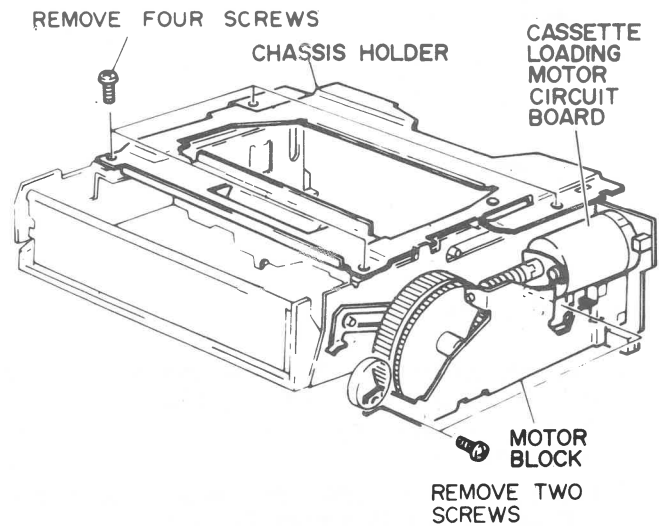

Fig. 13 Motor Block Removal
### Cassette Loading Mechanism Disassembly (Fig. 13 thru 16)
3. Remove the motor block and chassis holder (Fig. 13).